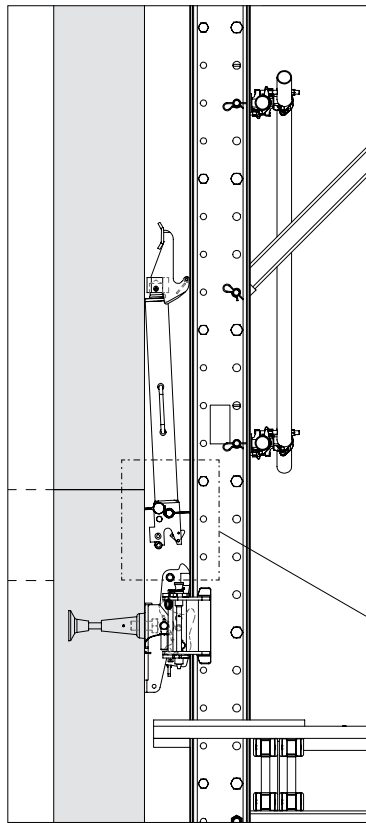

Fig. D7.15
2. Tilt the Climbing Device backwards, operate the locking lever (**60.6**) on the cylinder base and lift out the Climbing Device. (Fig. D7.15 + D7.15a)